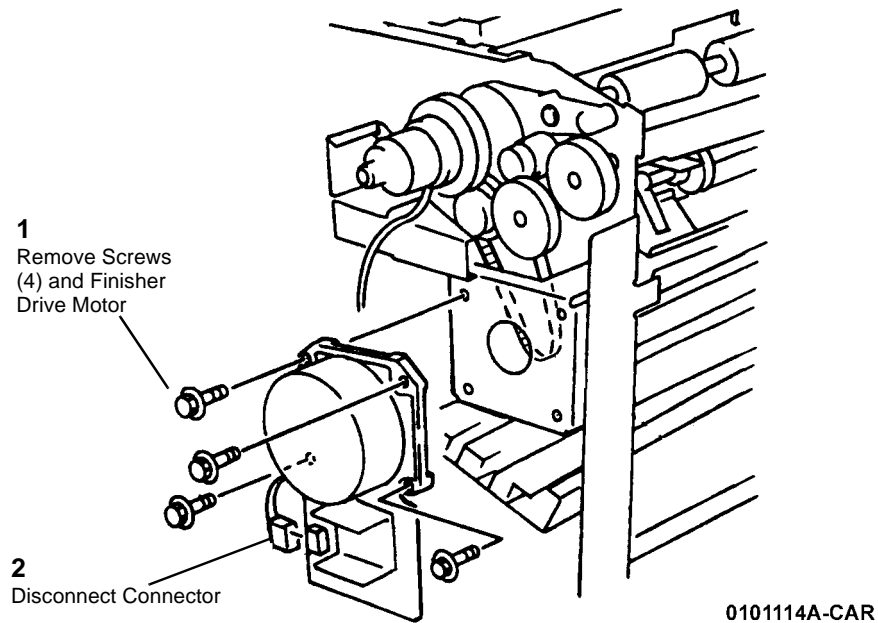

Figure 1 Removing the Finisher Drive Motor
2. Remove the Finisher Drive Motor (Figure 1).